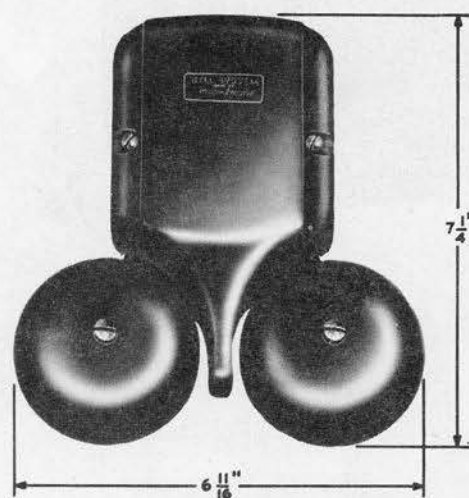

Fig. 2 - 592-Type Subscriber Set
2.03 592 Type: These subscriber sets have high impedance loud-ringing bells and a removable metal cover. The apparatus and exposed 4-inch gongs are mounted on a black finished metal base (Fig. 2). Uses are as follows: